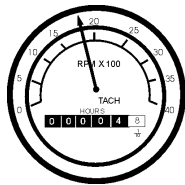

Figure 54. Engine Tachometer Gauge
13. The **tachometer gauge** (Figure 54) will indicate the speed of the engine when the generator is operating. Under normal operating conditions this speed is approximately 1800 RPM's.